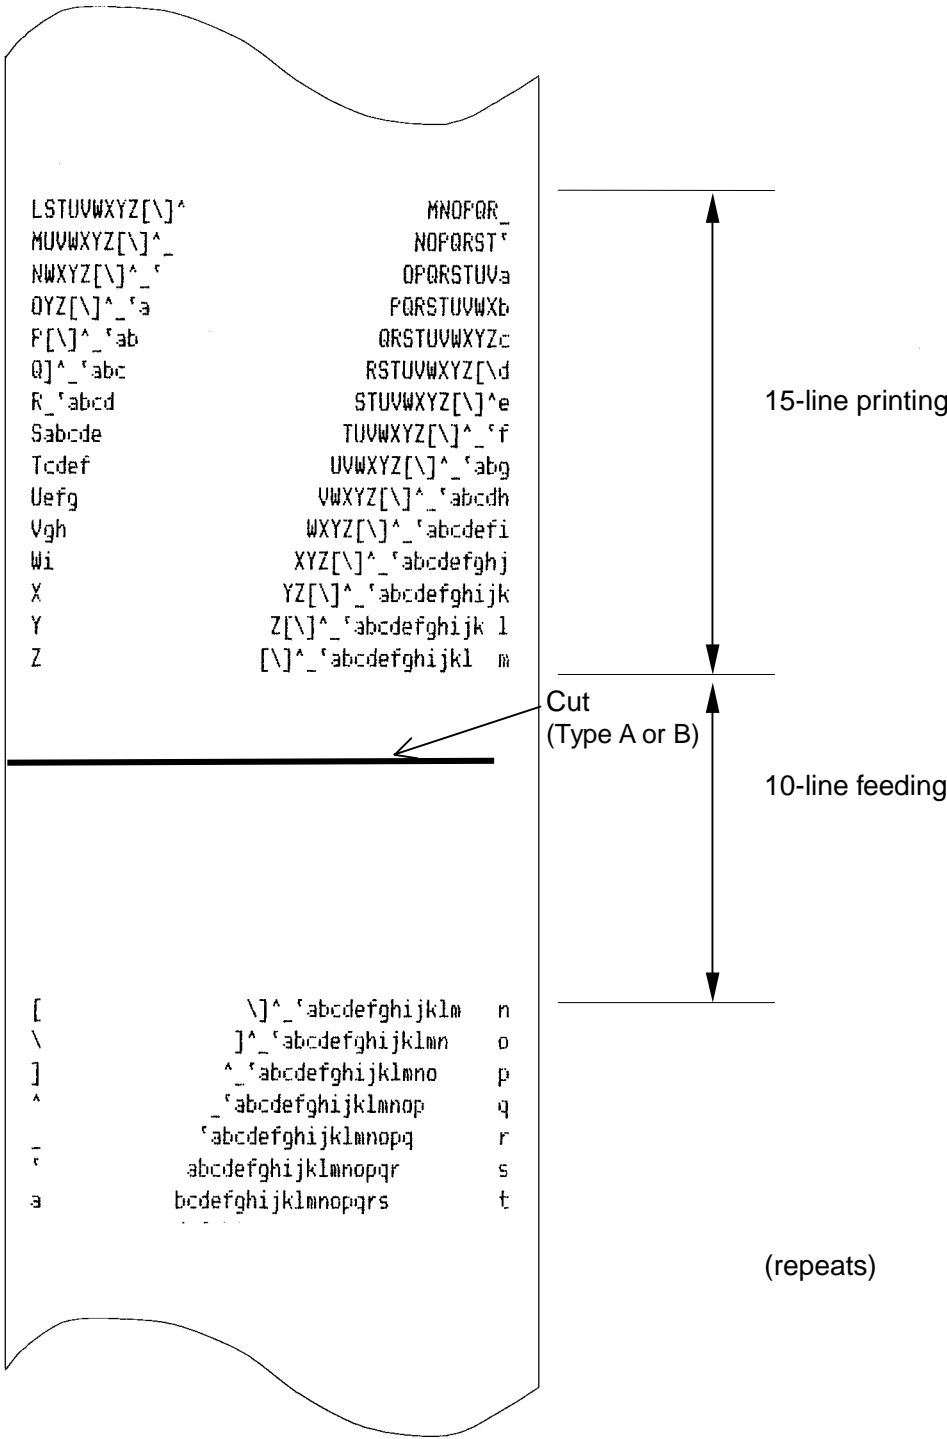

Figure A.1 Continuous Printing Test Pattern (Using the ERC-38(P)/(B))
- The upper limiting conditions on continuous printing are as follows when the printer enters full-column print head movement operation. (An example test pattern is shown in Figure A.1 or A.2.)